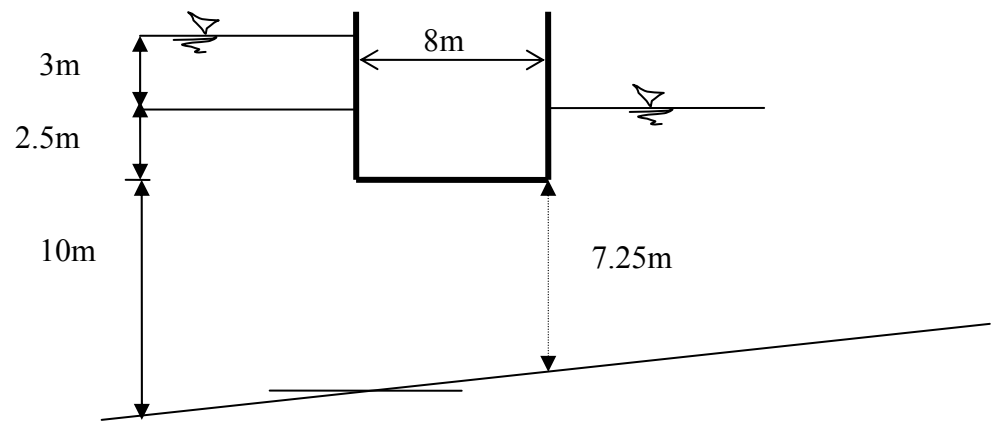

Figure 2
2. (a) What are the rules to draw the flownet? Give **FIVE (5)** conditions. [5 marks]
- (b) Draw the flownet for seepage under the structure detailed in Figure 2 and determine the quantity of seepage. The coefficient of permeability of soil is $5.0 \times 10^{-5} \text{ m/s}$. How much is the uplift force on the base of the structure. [15 marks]